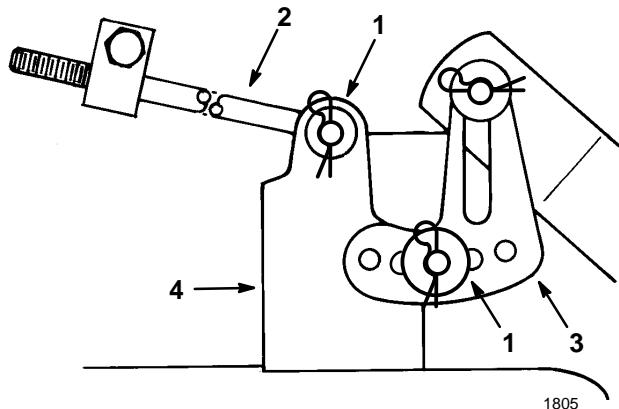

Figure 49
5. Remove the hair pin cotter and washer from the leveling bracket (Fig. 49). To level the blade(s), reposition the leveling bracket in a different hole and install the washer and hair pin cotter (Fig. 49). A front hole lowers the blade height and a rear hole raises its height. Repeat this procedure on the opposite side.